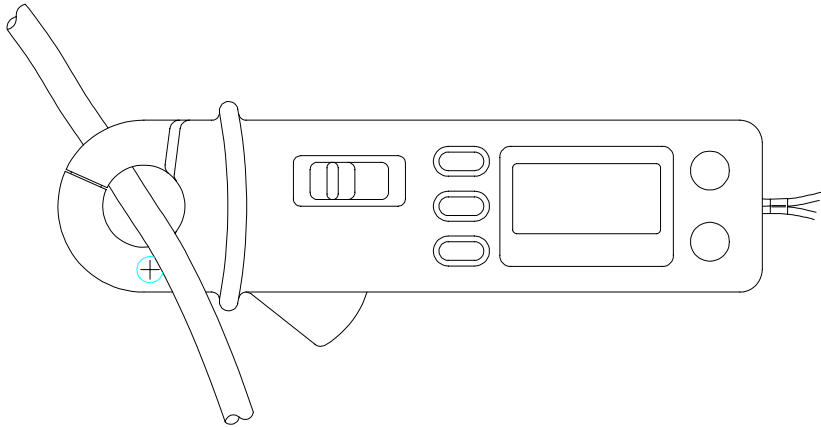

Figure 2
4. For DC measurement , the reading is positive value when the current flows from the upper side to the lower side of the instrument as Fig. 2.